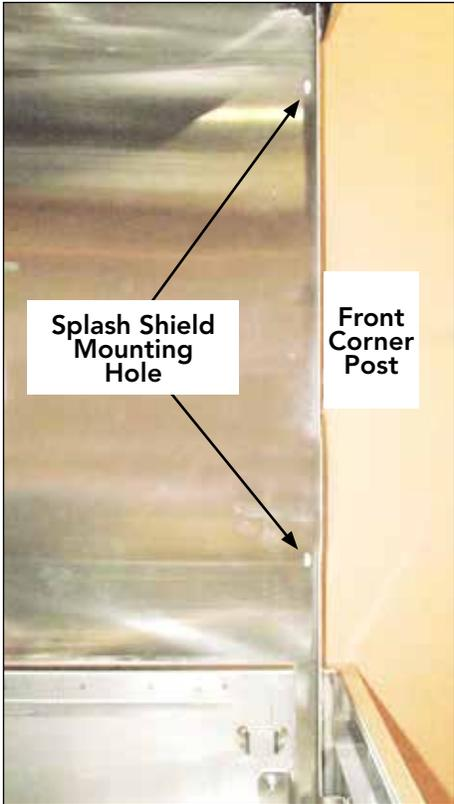

Fig. 6
- 7. Locate the mounting holes on the right-hand front corner. (Fig. 6).